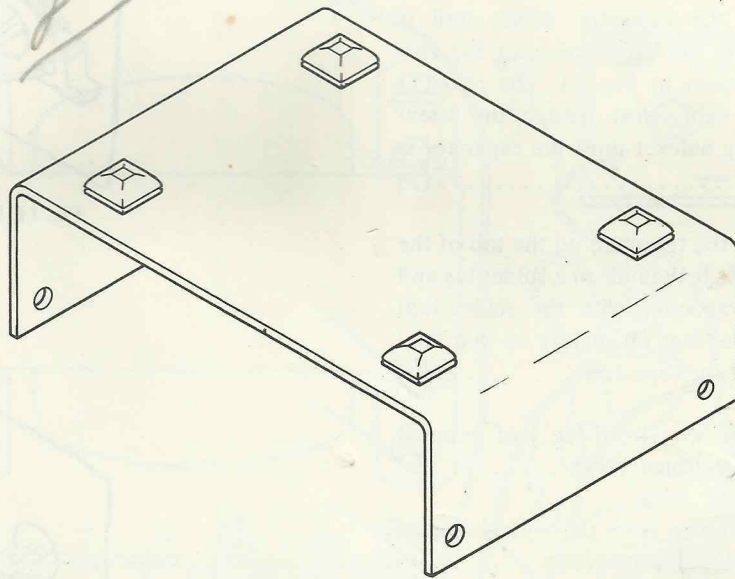

Fig. 12. Mounting the feet on one of the cabinet halves.
(1) Before installing the power supply in the cabinet, locate the four plastic mounting feet found in Bag "3B-320." Remove the backing from the feet and mount them on one of the cabinet halves as shown in Fig. 12 (✓)